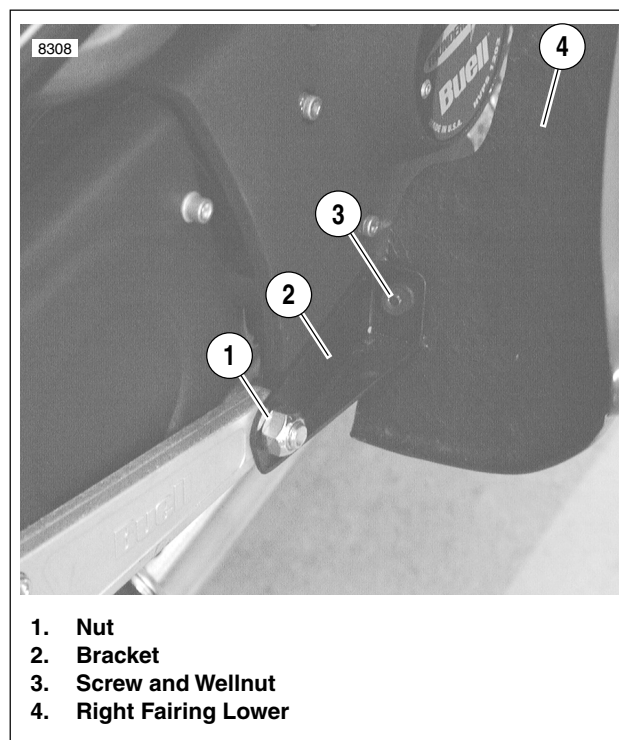

Figure 2-100. S3T Fairing Lower Mount
2. See Figure 2-100. On S3T models, remove screw on fairing lower. Remove bracket from stud.
4. See Figure 2-100. On S3T models, place fairing lower bracket on stud. Fasten fairing lower to bracket using screw.